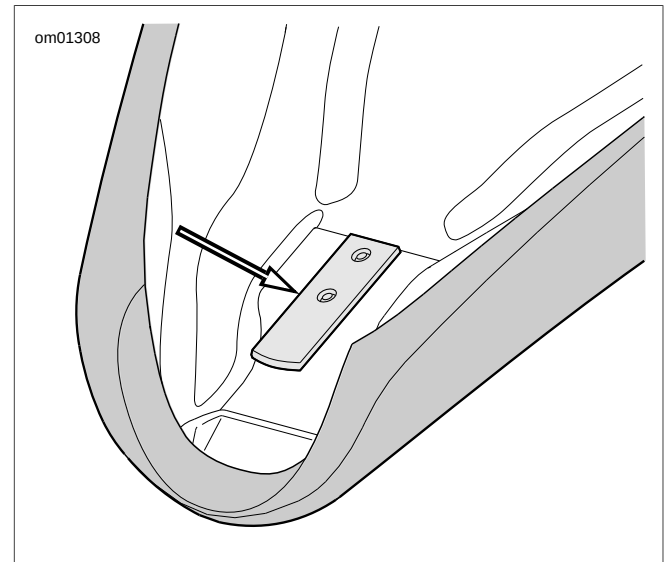

Figure 2-130. Seat Tongue (typical)
2. See Figure 2-130. Push seat rearward to free tongue at front of seat from slot or bracket in frame back.